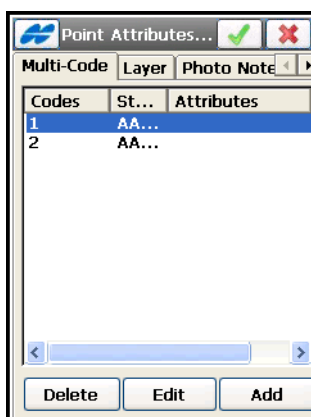

Figure 6-10. Multiple Code-Attributes
- **Multiple Codes** – opens the *Point Attributes* screen with multiple codes to edit (Figure 6-10 on page 6-11).
On the **Multi-Code** tab (Figure 6-10), you can edit multiple codes and strings. Multiple codes and strings associated with a point make the point a part of numerous lines.